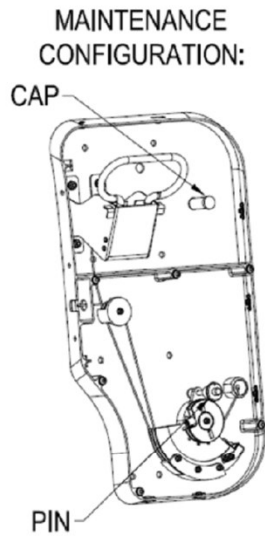

Figure 2 – Maintenance configuration mode
- (1) The application of this service bulletin will be performed at the first scheduled maintenance (Ref: Figure 2) or if an incorrect installation of the upper pulley was detected following inspection as per Aero Sekur SB 189-25-009 Rev. 1.